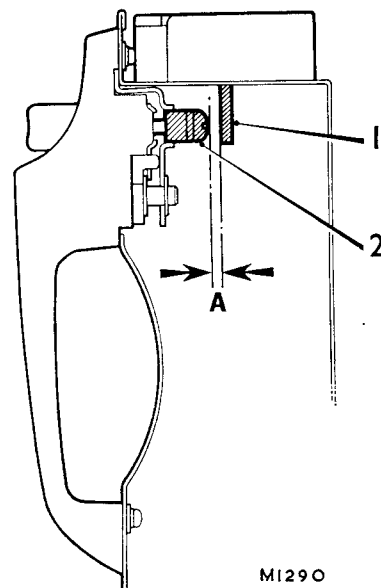

Fig. Rb.3
This is preset during manufacture to provide free button movement before the latch contactor (1) begins to operate and release from the striker before full depression (see Fig. Rb.3). However, if further adjustment of the plunger screw is required proceed as detailed below:
- (5) Remove the exterior door handle (see Section Rb.6).
- (6) Adjust the plunger screw and ensure that when the handle is refitted there is a clearance of approximately $\frac{1}{32}$ to $\frac{1}{16}$ in. (1 to 1.5 mm.) between the head of the screw and the contactor mechanism.